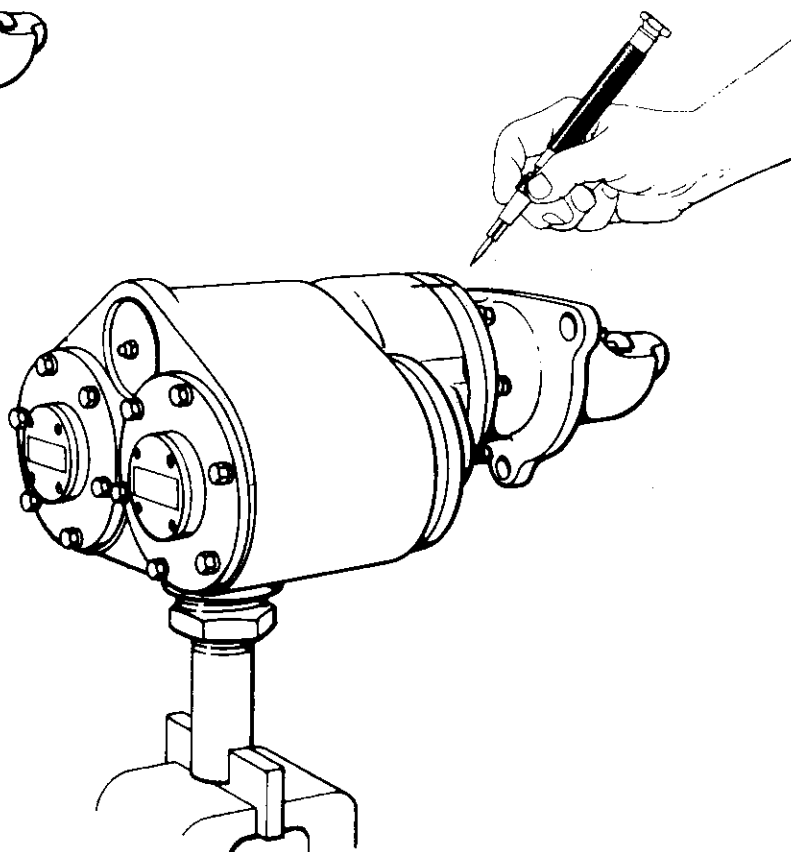

Figure No. 2.2 - Reference Marking
2. Scribe a reference mark on the drive housing, gear case cover, and gear case, as shown in Figure No. 2.2
3. Loosen and remove the eight drive housing nuts (5) lockwashers (6).
4. Pull the drive housing (4) from the gear case.